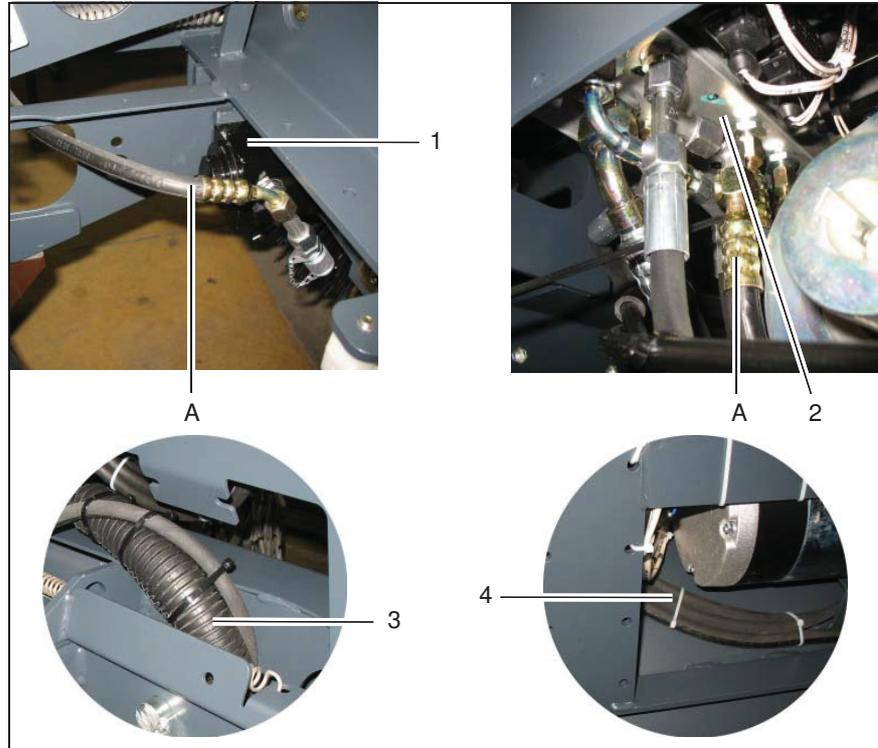

Fig. 2
Assemble the hydraulic hose (A) on the hydraulic cylinder (Fig. 2/1) with cover, straight fitting, adjustable T-fitting and measuring nozzles.
Assemble the hydraulic hose (A) on the valve manifold (Fig. 2/2) with adjustable angled fitting and L-fitting.
Fix the hydraulic hose in the chassis to the cable harness (Fig. 2/3) or to the hydraulic hoses (Fig. 2/4) with cable ties.